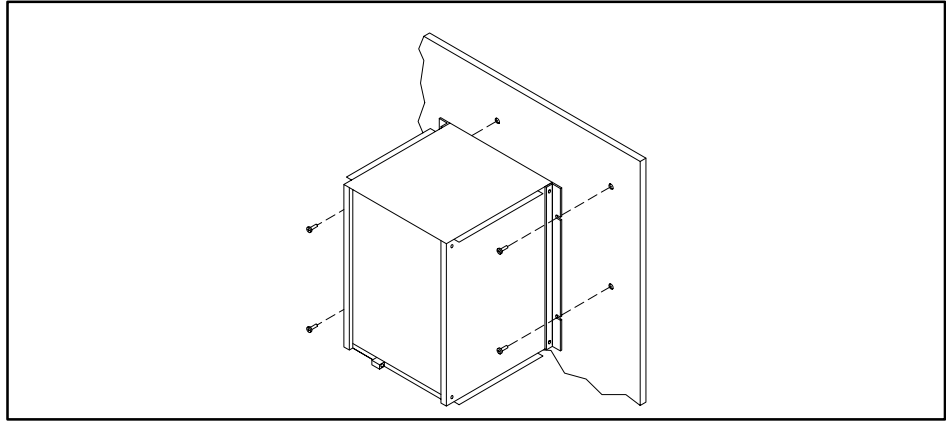

Figure 4-8 Mounting Base in NEMA Enclosure
4. Install #10 screws through each bracket hole to attach the base to the sub-panel. See Figure 4-8.